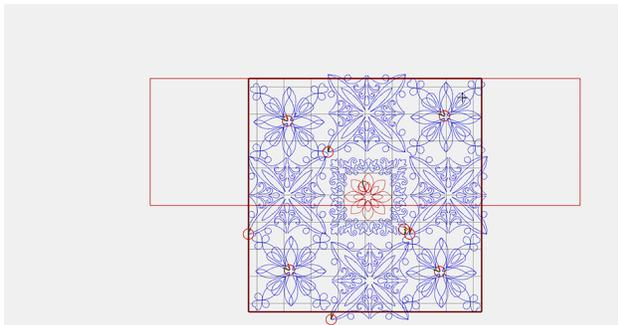

Fig. 75
- Using Touch Gestures on-screen, resize the Celia design to a size that fits inside the BD394.bqm and is pleasing (Fig. 75).